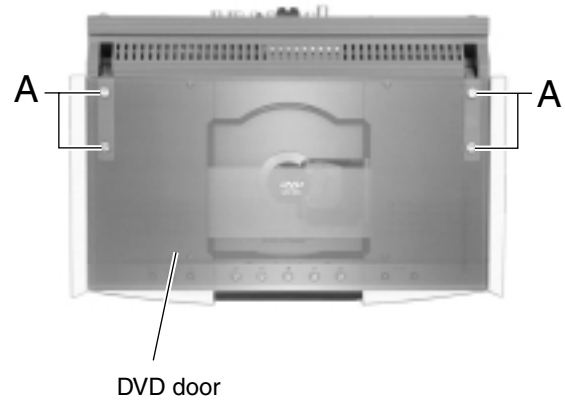

Fig.1
■ Removing the DVD door (See Fig.1)